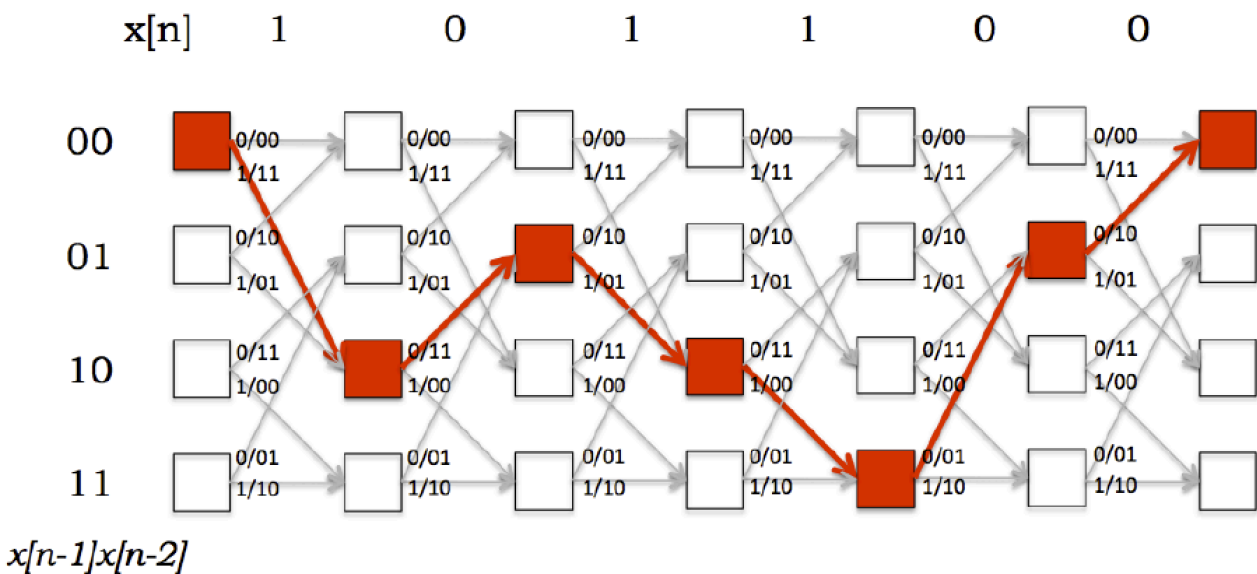
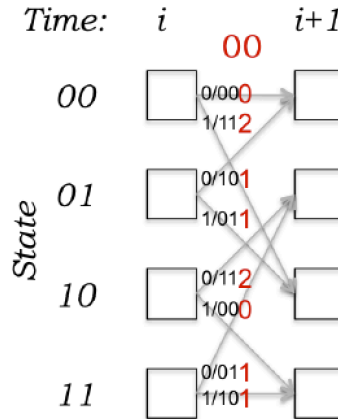

Figure 3: Trellis Structure
Figure 4: Hamming Distance Calculation
There exists a structure called Trellis. This structure describes the state change each time a bit is given as input. An example is shown in Figure 3. The output bitstream (yy) here is 111101000110.
- The first step is, for each of the r encoded bits, the error is calculated between itself and the output of each edge present in one column of the Trellis structure. This error is the Hamming distance. An example is shown in Figure 4.
In the example from Figure 4, the two encoded bits (parity bits) are 00. There are two edges that can perfectly fit it with 0 error, which are edge 00 → 00, and 10 → 11. In Figure 3, you need to calculate the error 48 times in total (6 pairs of encoded bits-yy times 8 differences in each column). If the encoded stream is 111101000110, you need to calculate the error using 11 with all possible outputs in the first column and calculate the error using 11 with all possible outputs in the second column, ... until the last pair 10 with all possible outputs of the sixth column.